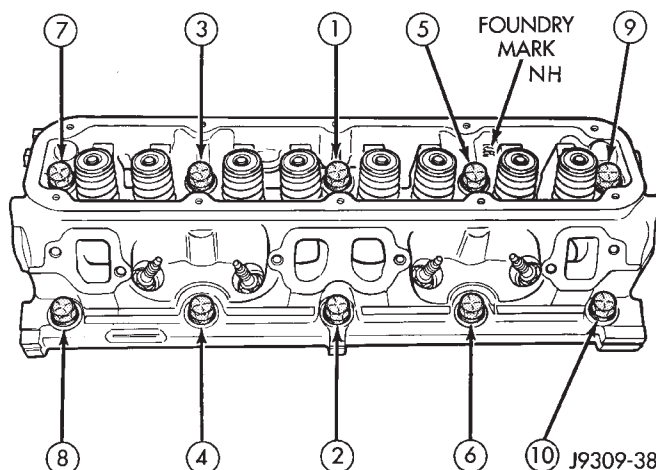

Fig. 20 Cylinder Head Bolt Tightening Sequence
- (1) Position the new cylinder head gaskets onto the cylinder block.
- (2) Position the cylinder heads onto head gaskets and cylinder block.
- (3) Starting at top center, tighten all cylinder head bolts, in sequence, to 68 N·m (50 ft. lbs.) torque (Fig. 20). Repeat procedure, tighten all cylinder head bolts to 143 N·m (105 ft. lbs.) torque. Repeat procedure to confirm that all bolts are at 143 N·m (105 ft. lbs.) torque.